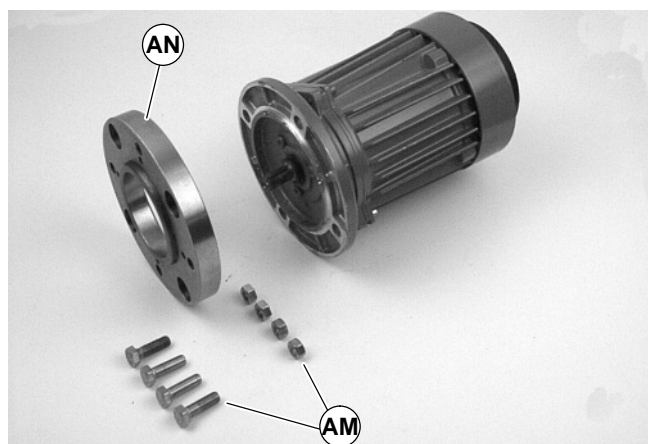

Figure 24
4. Remove four (4) screws and nuts (AM of Figure 24). Remove adapter flange (AN).